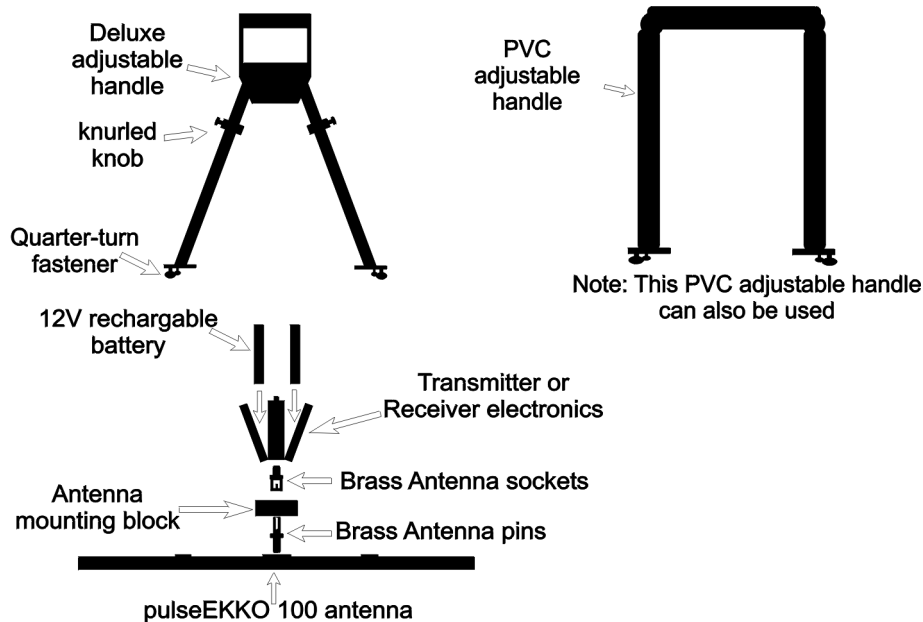

Figure: 2-2
The procedures for assembling the transmitter and receiver antennas are identical. A detailed diagram of this assembly can be found in Figure 2-2. The assembly steps are as follows:
- f) Attach the adjustable handle to the antenna using the flat head screwdriver to tighten the 4 quarter-turn fasteners as with the mounting block. This handle can then be adjusted for height by loosening the 2 knurled knobs by hand, moving the handle to the desired height and retightening the knobs (Figure 2-2).